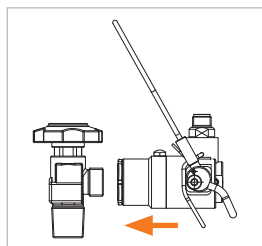

Figure 8
▶ Put the connector loosely and straight onto the cylinder valve until a noticeable seal contact has been established (Figure 8). Doing so will prevent any damage to the front seal caused by any sharp edges on the cylinder valve and ensure a correct connection.